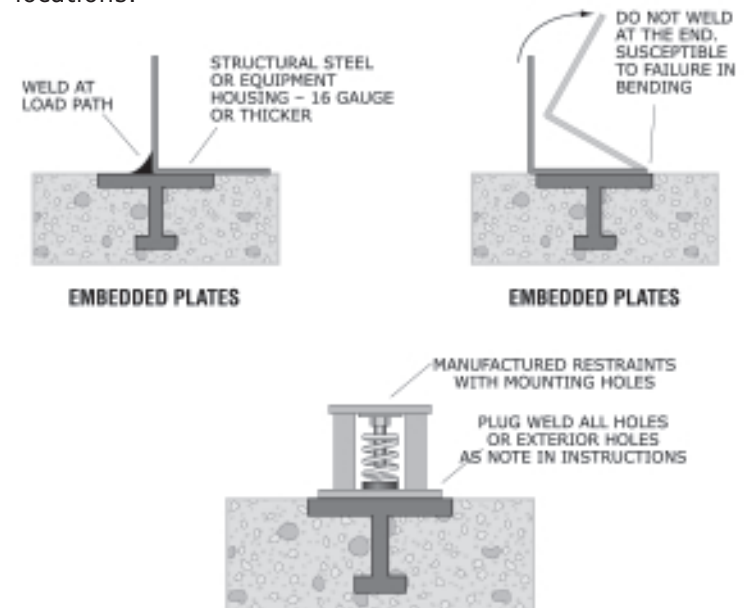

Figure 150: Welding to embedded plates.
**Attaching equipment to embedded plates:** Plates are embedded in the concrete during the floor or wall pour. Plates are firmly held in place while the concrete is poured to maintain proper alignment and position. The size and location of the plate can be determined from construction drawings. See Figure 150 (below) for weld locations.